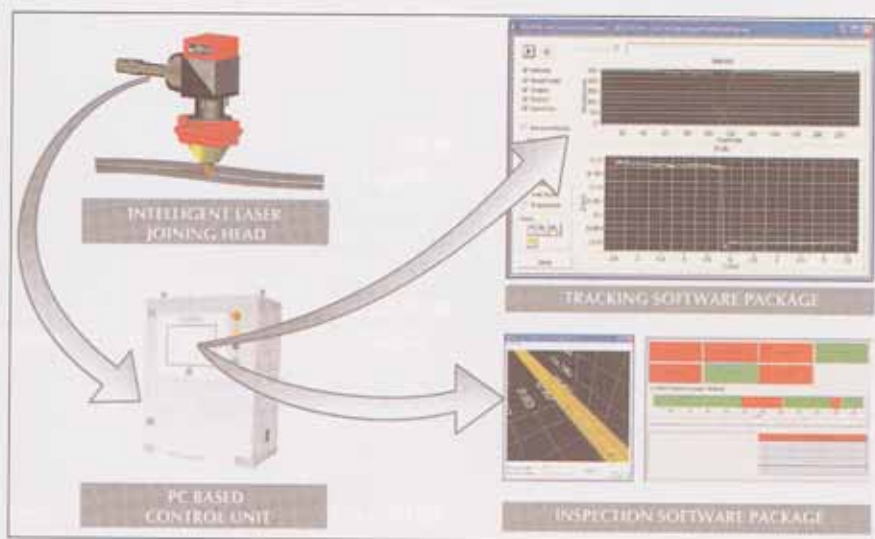

FIGURE 3. Measuring the complete geometry of a finished weld and inspecting the results.
- Weld dimension sensing. A GeoScan system is capable of measuring the complete geometry of the finished weld and can compare the results to a company or industry standard (see Figure 3).